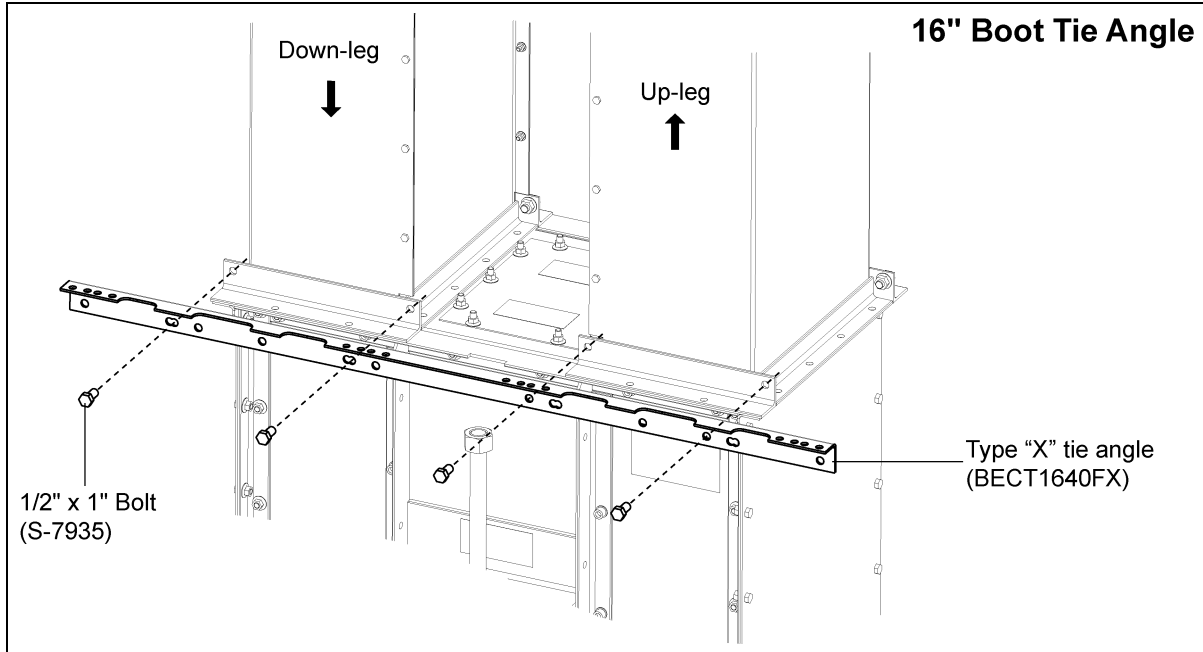
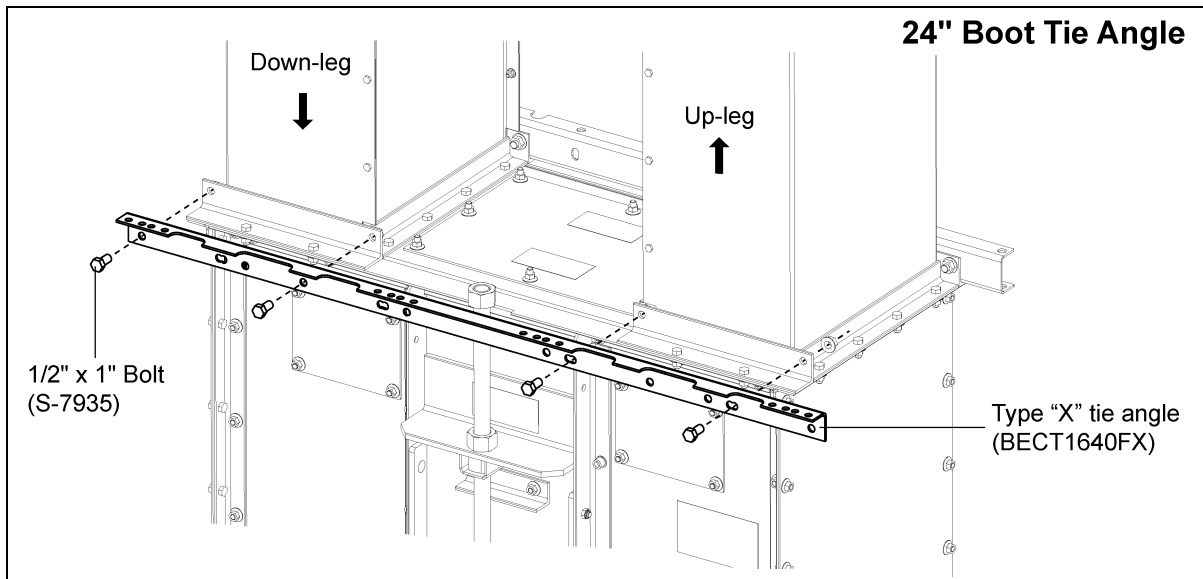

Figure 6A 16" Boot Tie Angle
Figure 6B 24" Boot Tie Angle
1. On the NON-LADDER SIDE, attach tie angle to the trunking using 1/2" x 1" bolts. (See Figure 6A and Figure 6B.)
- a. **For 16" Boot Tie Angle:** With lip of tie angle up and outward, align tie angle so that it extends beyond the trunking at each end. (See Figure 6A.)
- b. **For 24" Boot Tie Angle:** With lip of tie angle up and outward, align edge of tie angle to edge of trunking at down-leg end. With this alignment, tie angle will extend slightly beyond the edge of trunking at the up-leg end, as shown in Figure 6B.